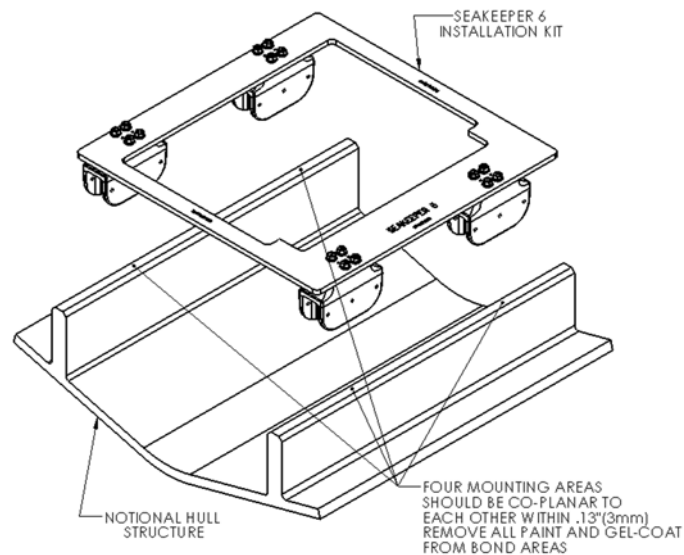
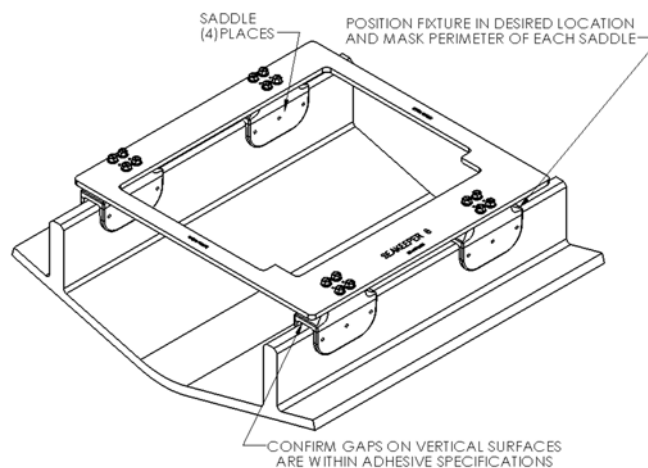

FIGURE 8 - INSTALLING FIXTURE ON HULL
FIGURE 9 - MASKING PERIMETER OF SADDLES
- 2) **The four areas where the feet of the Seakeeper will rest should be coplanar to within .06" (1.5mm). See Figure 9.**
- 1) Position installation fixture (Fig 8) on hull girders noting recommended clearances for maintenance from Figure 2. Check that the screws fastening the saddles to the installation fixture are tight (Fig 6).
- 2) Mask hull area (Fig 9) around foundation saddles for easy clean-up and to create outline of surface area to receive adhesive as (Fig 8). Insure that the bond gap is within Seakeeper's recommended thickness, or 3mm if using Plexus MA590.
- 3) Raise fixture clear of foundation. Check all four mounting areas are co-planar to within .13" (3 mm) to each other, as well as parallel to the water line plane, as shown in Fig 8.
- 5) Remove any paint or gel-coat from bond surfaces so that adhesive will bond directly to laminate fibers and resin as shown in Figure 8.